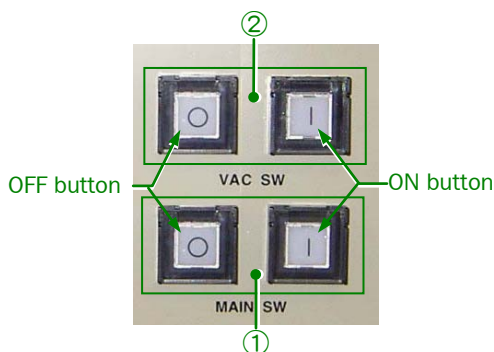

Fig. 12 MAIN VAC power switches
2. Press the OFF button of the VAC SW button in the front of the operation system. (Fig.12)